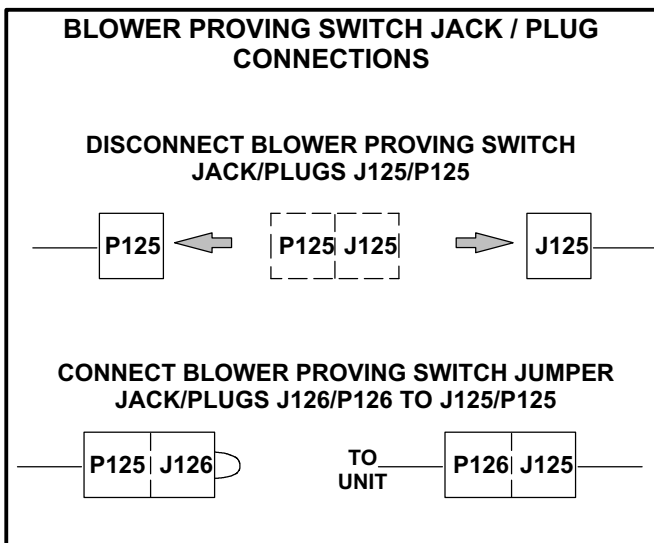

FIGURE 6
- 3- Disconnect J125/P125 blower proving switch jack/plugs. Connect blower proving switch jumper jack J126 to blower proving switch plug P125. Connect P126 blower proving switch plug to J125 blower proving switch jack. See figure 6.